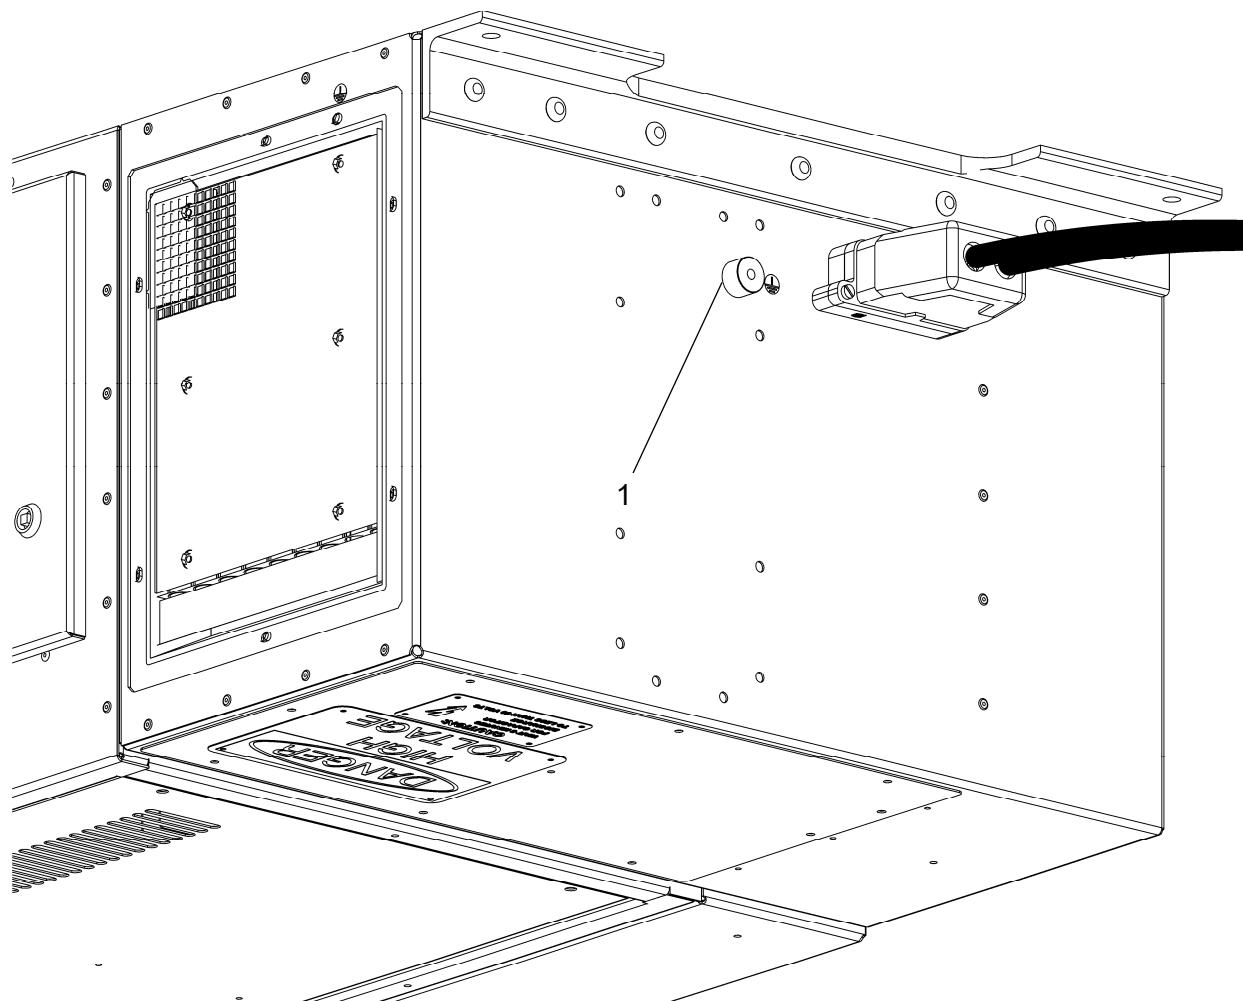

Figure 3-14: Ground Bolt 1
1. Check ground connection (metric bolt M10 x 20 mm) at primary APS ground socket (1) for firm fit. Use torque wrench. See Figure 3-14.